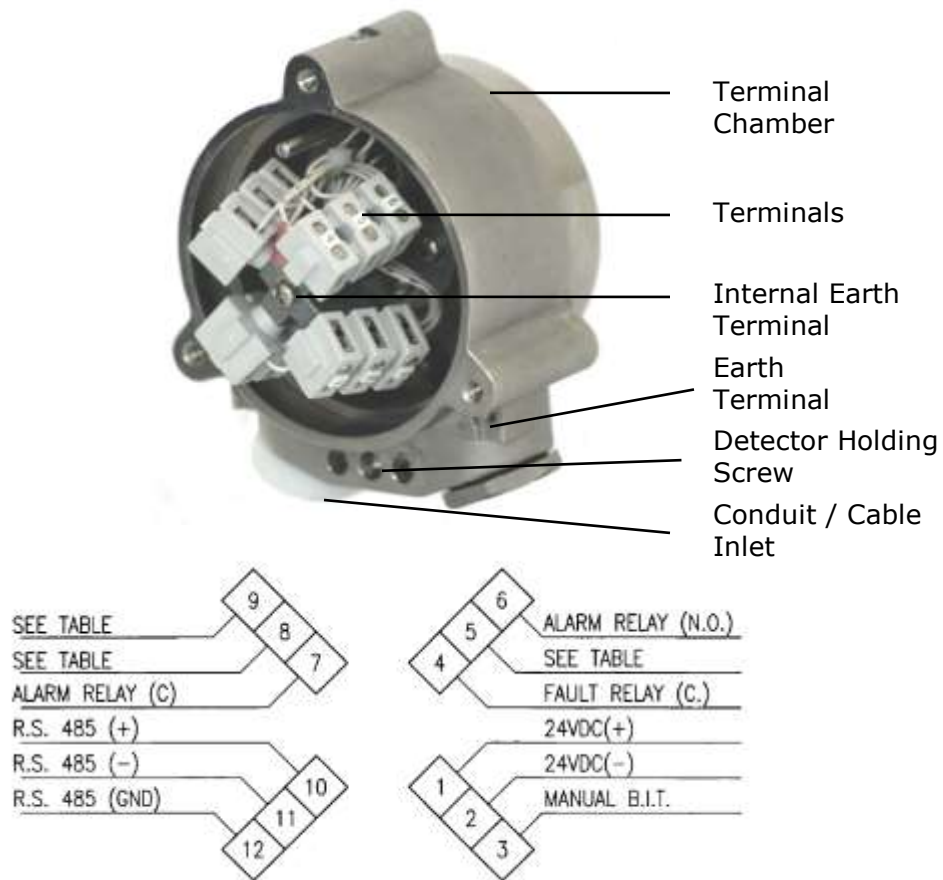

Figure 8: Detector with Cover Removed
This section describes how to connect the electric cabling to the detector (Figure 8).
- 5 Connect the wires to the required terminals on the Terminal Board according to the wiring diagram (Figure 8) and Table 17.
- 8 Check the wires for secure mechanical connection and press them neatly against the terminal to prevent them from interfering while closing the back cover (Figure 8).